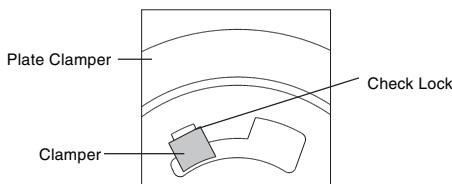

Fig. 2-5-B
**2-5: CLAMPER ASS'Y (Refer to Fig. 2-5-A)**
- Press the Clamper and rotate the Plate Clamper clockwise, then unlock the 3 supports ①.
- A 1. In case of the Clamper Ass'y installation, install correctly as Fig. 2-5-B.